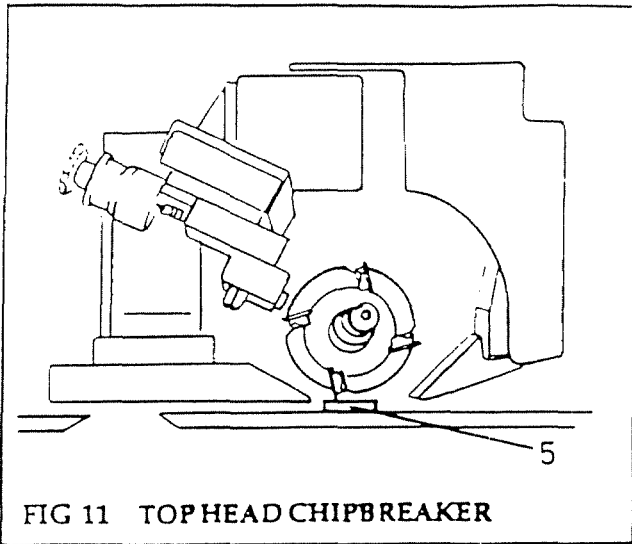

FIG 11 TOP HEAD CHIPBREAKER
- (5) To electrically move top head with beam proceed as follows:
**TOP HEAD** (Fig 10, Fig 11)